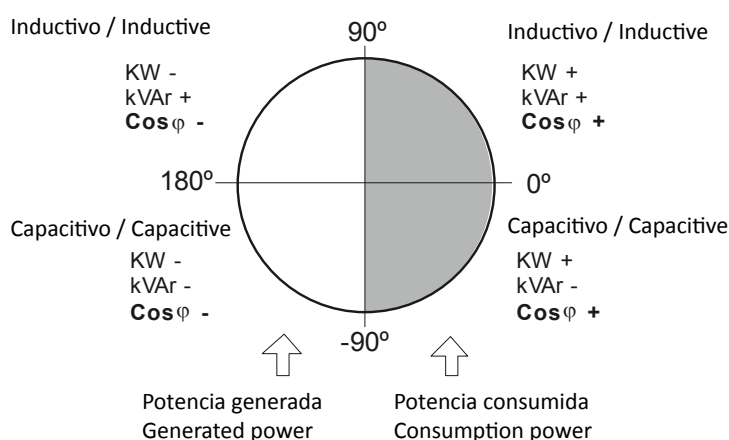

Figure 5: Signs in the measurements of the 4 quadrants.
- **Control in four quadrants** (see **Figure 5**), with indication of the stages connected,  $\cos \varphi$ , power sign and sign of the reactive power (inductive or capacitive).